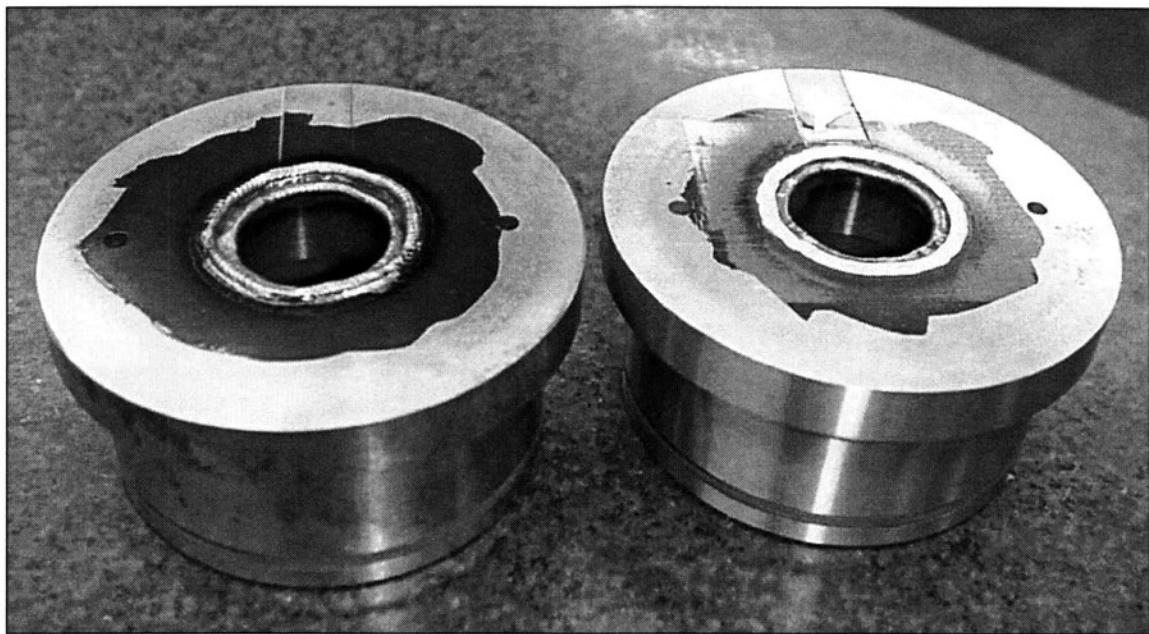

FIGURE 14-1 Dykem® is used as a visual aid to blend in weld.
4. *Spread a thin layer of Dykem® on a surface to locate the surface. (See Fig. 14-1)*